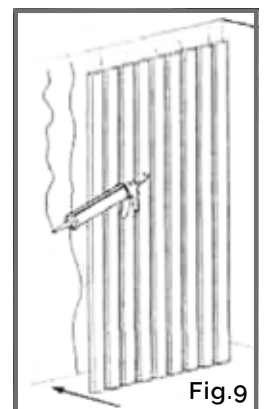

Fig.9
- If you choose to use glue instead of screws, apply an even layer of professional adhesive on the wall. (fig: 9)